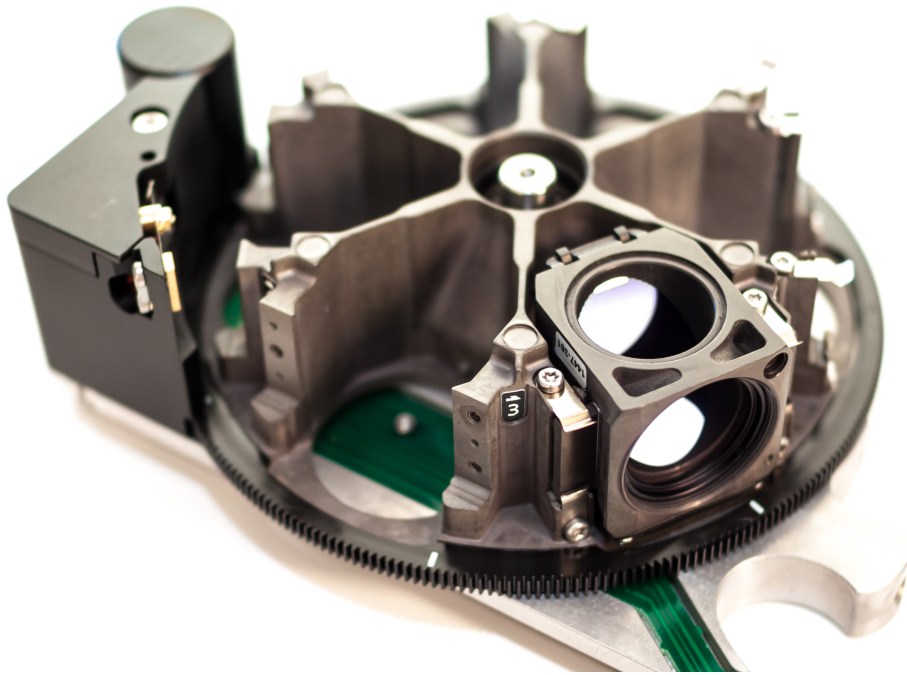

Figure A.4.: View of the turret with beam reflector (splitter) module.
2. The beam reflector module is located on the position 3 of the reflector turret, see Figure A.4. In most cases dust can be blown off without further disassembly. If not, remove the reflector module by slightly lifting the upper string clips and then tilting the module outwards to take it out. After it comes free you should be able to properly inspect the optical surface.
3. The beam splitter is the angled optical surface, of the reflector module, see Figure A.4. Its dielectric reflective surface points downwards and should not be affected by dust or chemicals, so focus on its upper side. It is not recommend to disassemble the reflector module. In case of the presence of dust carefully use a blow-ball, or a nitrogen gun. After inspection reload the reflector module in the turret and insert it back into the microscope. Do not forget to pull down the black cover and rotate the locking lever upwards.